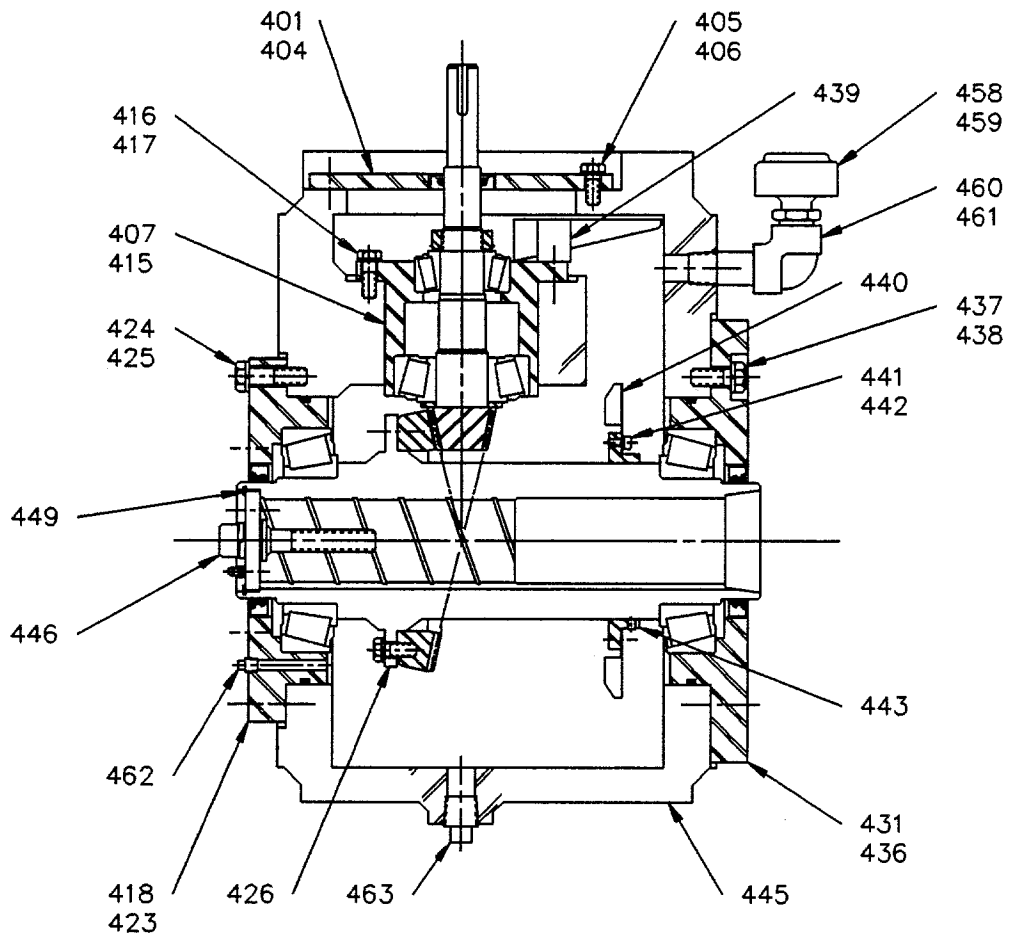

Figure 10: HS Gear Drive
1. Remove snap ring [449] and retract bolt assembly [446] (*Figure 10, page 40*).